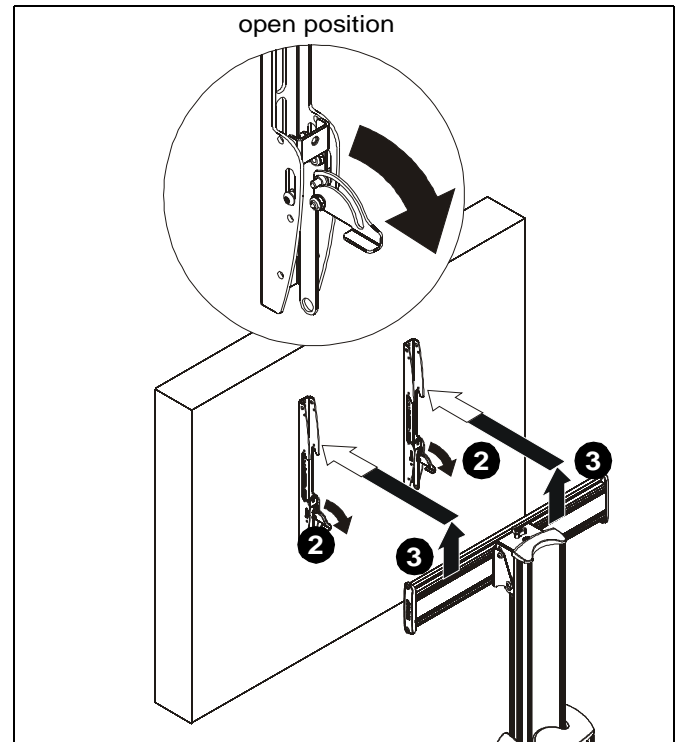

Figure 16
2. Position latches on interface uprights so that they are in the "open" position. (See Figure 16)
3. Carefully lift display from stand. (See Figure 16)